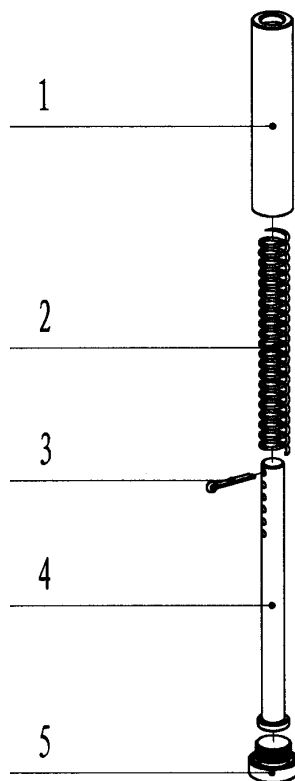

Fig 11
9.3.1 Fore guide rod assy. (Fig 11, Table 11)